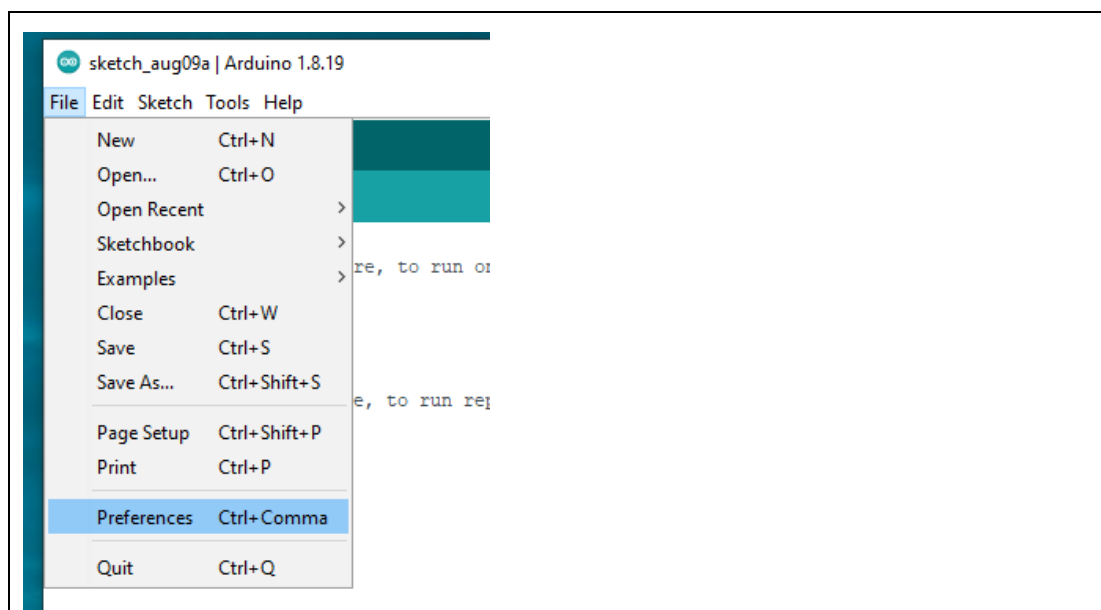

Figure-1.4. Select 'Preference'
6. Arduino IDE is designed for another microprocessors (ATmega). You have to download some plug-ins (libraries) for ESP32. In Arduino IDE, select 'File' 'Preferences' (Figure-1.4).